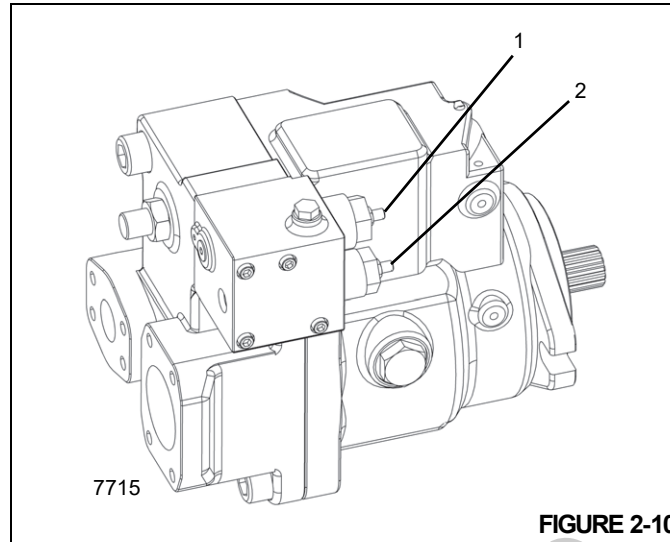

FIGURE 2-10
If margin pressure is not correct, adjust the load sense (LS) adjusting screw (2, Figure 2-10) at the pump. Turn the screw clockwise to increase the setting. Each turn gains 19 bar (275 psi). Tighten the lock nut to 16.2 Nm (12 lb-ft) to secure the setting.
2. If the maximum pressure is incorrect, adjust the pressure-compensating (PC) adjusting screw.
3. Loosen the lock nut and turn the PC adjustment screw (1, Figure 2-10) clockwise to increase the setting. Each turn gains 100 bar (1,450 psi). Tighten the lock nut to 16.2 Nm (12 lb-ft) to secure setting.
3. If the LSRV pressure is not correct, adjust the LSRV adjusting screw. Loosen the lock nut and adjust the setting. Turn the PC adjustment screw (1, Figure 2-10) clockwise to increase the setting. Each turn gains 59 bar (850 psi). Tighten the lock nut to 5.4 Nm (4 lb-ft) to secure the setting.